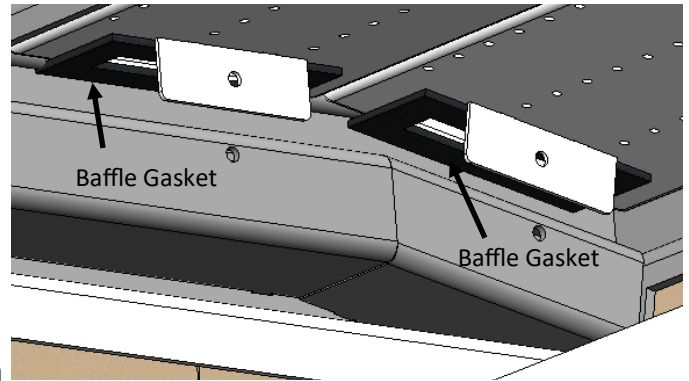

Fig. 28
3. Lift Baffles straight up and remove from stove. See Fig. 28.